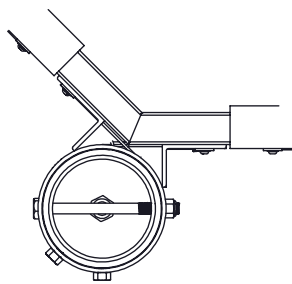

FIGURE 1
- 1) RC PLANK PREPARATION: Take (3) RCP planks and trim them down to 120" long. Cut a 68° angle on the end of the wing planks where they meet the center planks (see figures 1 & 3 below).
- 2) Place the (3) planks on the ground or saw horses in front of the backstop. Locate the Center Plank Angle Supports and 3 Plank Assemblies and put them on top of the evenly spaced planks. Locate the slots evenly over the (3) planks with a 1/4" gap between each plank. The end of each plank should be located at the center of the 5-9/16" collar. The (5) plank sections are made with 2 and 3 Plank Assemblies which are stacked on each other.